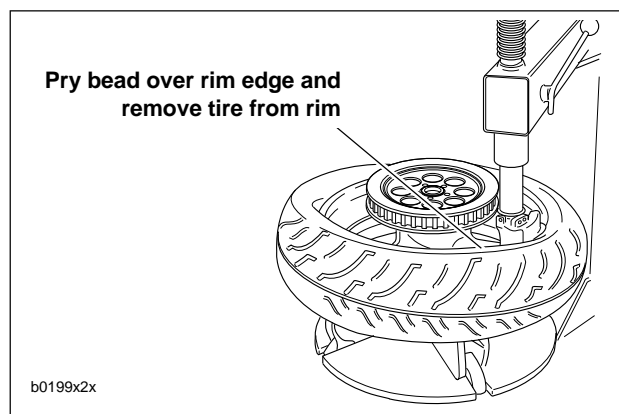

Figure 2-16. Starting Tire Off Rim
5. See Figure 2-16. Push lower bead into rim well on one side and insert tire tool underneath bead from opposite side. Pry bead over rim edge. Remove tire from rim.